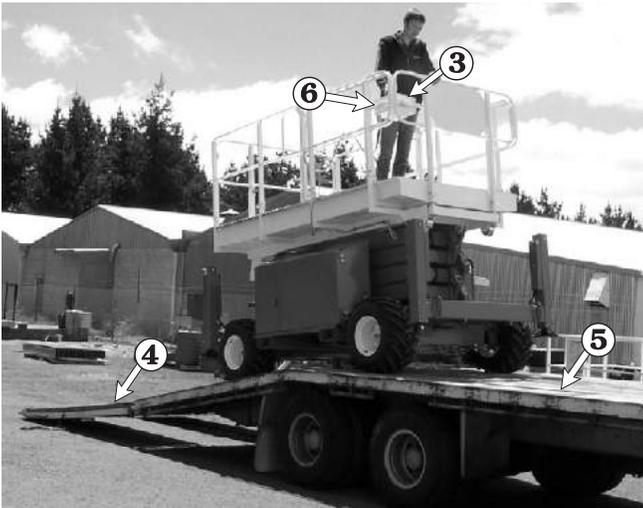

Figure 10.4
6. Use the joystick controller **3** to slowly drive the S3970RT / S3370RT / S2770RT straight onto the ramp **4** and trailer **5** (see Figure 10.4).
7. When the S3970RT / S3370RT / S2770RT is in place on the trailer, push the **Emergency Stop** switch **6** (see Figure 10.4) in (OFF) at the platform control box.